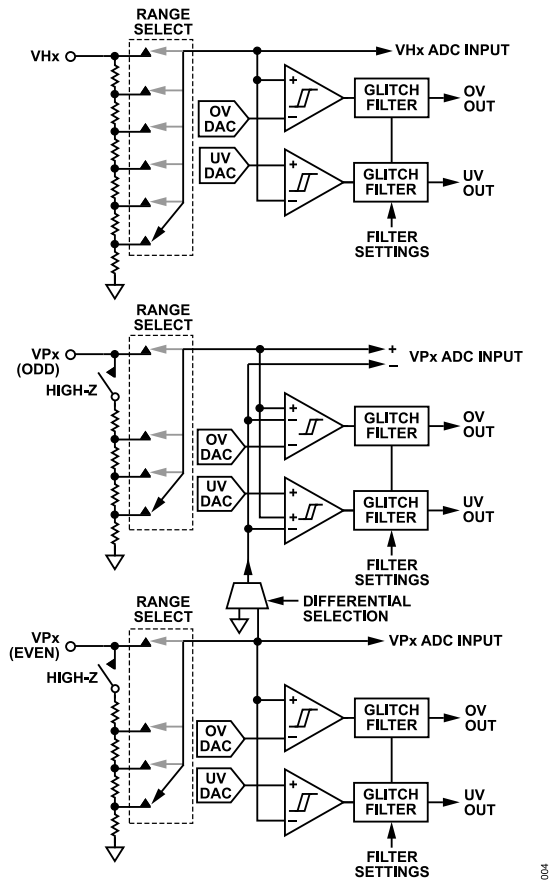

Figure 9. Supply Fault Detectors
The ADM1266 has 17 programmable supply fault detector (SFD) inputs. These dedicated inputs are labeled VHx (VH1 to VH4) and VPx (VP1 to VP13). The ADM1266 is also capable of making precision differential voltage measurements on the VPx pins (the exception is that VP13 cannot be used for differential measurements). One differential measurement requires two VPx pins. The odd numbered VPx pin (for example, VP1) must always be the greater voltage. The next corresponding even number VPx pin (for example, VP2) is used for that differential measurement. Both differential VPx pins must have the same input range selections. The SFD for the odd numbered VPx pin responds to the differential measurement. Figure 9 shows the arrangement of the pins. Each SFD input can be configured to detect an undervoltage (UV) fault (the input voltage drops below a preprogrammed value), or an overvoltage (OV) fault (the input voltage rises above a preprogrammed value). A programmable (up to 100  $\mu\text{s}$ ) glitch filter allows the user to remove any spurious transitions such as supply bounce at turn on.
The UV and OV comparators shown in Figure 9 are always monitoring and sensing the voltage on VHx and VPx. To avoid chatter (multiple transitions when the input is very close to the set threshold level), these comparators have digitally programmable hysteresis. The hysteresis is added after a supply voltage goes out of tolerance. Therefore, the user can program the amount above the UV threshold to which the input must rise before a UV fault is deasserted. Similarly, the user can program the amount below
The ADM1266 has an on-board, 12-bit accurate ADC for voltage readback over the PMBus using the READ\_VOUT command (Register 0x8B). Inputs to the ADC consist of the 17 SFD inputs (VHx and VPx pins). The inputs to the ADC come from the back of the input attenuators on the VPx and VHx pins, as shown in Figure 9.